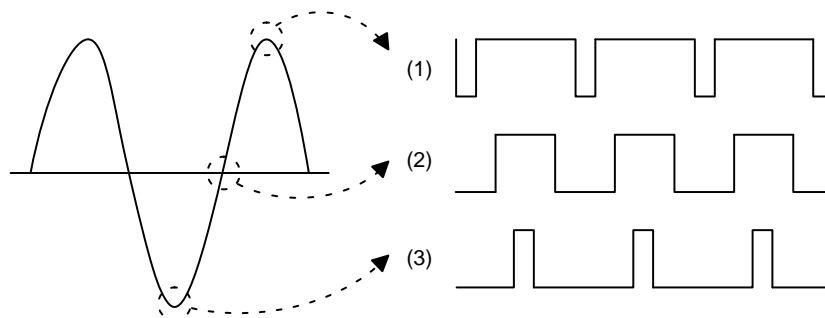

Figure 2. PWM Generation
Figure 2 shows characteristic of the PWM signal. DAC works to generate the PWM signal showing that high level code like the top part of the sine wave is converted so that high level of the PWM continues for long time such as (1), middle level code like the middle part of the sine wave is converted so that the duty of the PWM is around 50:50 such as (2) and low level code like the low part of the sine wave is converted so that low level of the PWM continues for long time such as (3). Delta-Sigma Modulator causes this modulation.